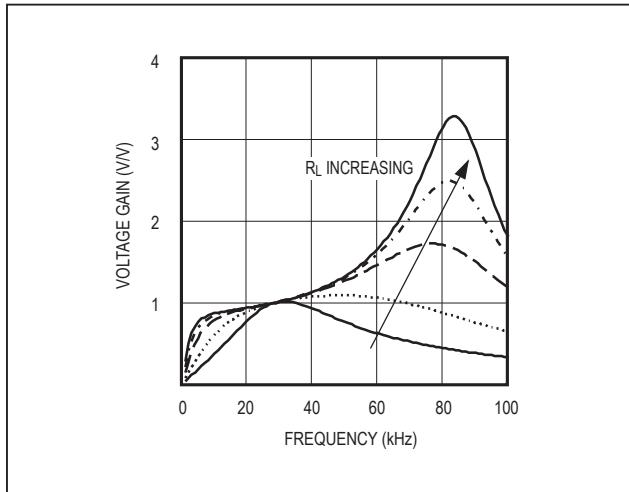

Figure 8. Frequency Response of the Resonant Tank
Figure 8 shows the frequency response of the resonant tank's voltage gain under different load conditions. The primary series capacitor is 1 μ F, the secondary parallel capacitor is 15pF, the transformer turns ratio is 1:93, and the secondary leakage inductance is 260mH. Notice that there are two peaks, f_S and f_P , in the frequency response. The first peak, f_S , is the series resonant peak determined by the secondary leakage inductance (L) and the series capacitor reflected to the secondary (C_s'):